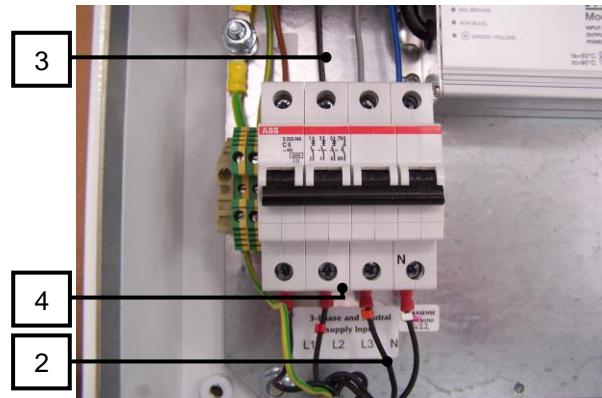

Fig 6.1
Noting the sequence - Disconnect the mains supply cables (2) followed by the output cables (3) (see Figure 6.1).
Slide the securing tab out that holds the circuit breaker in place (4) (see Figure 6.1). The circuit breaker can now be removed from the enclosure.